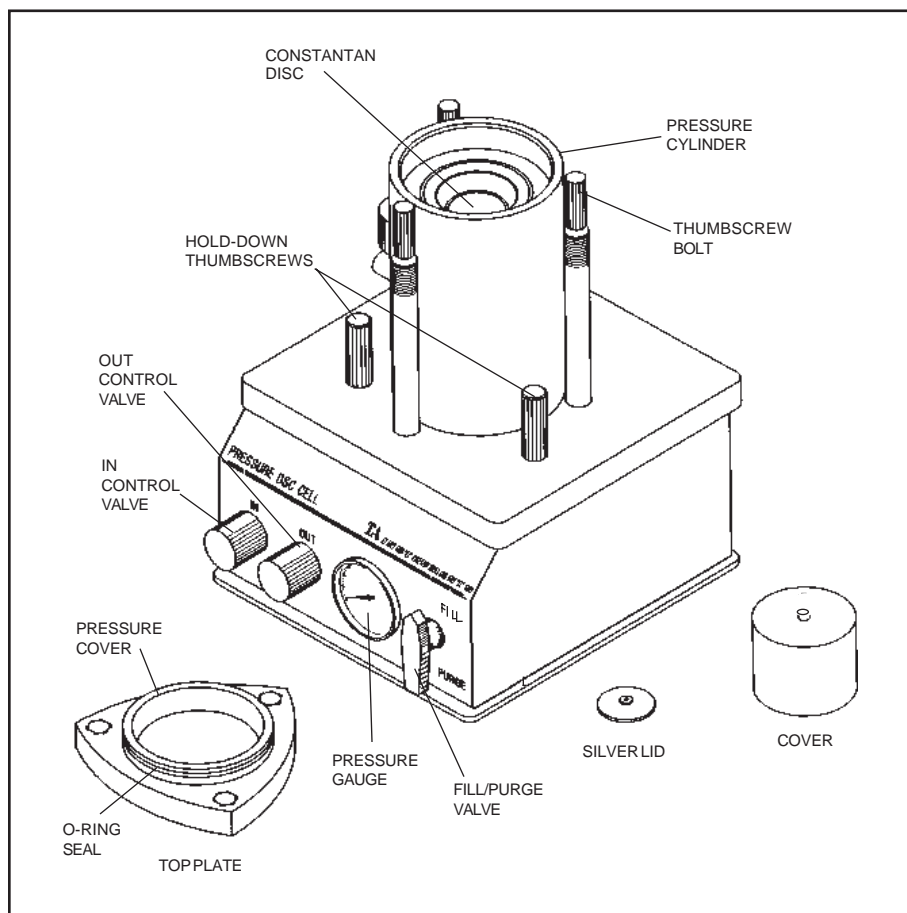

Figure PDSC.6
3. Unscrew the three thumbscrew bolts (Figure PDSC.6) from the top plate. Do not use tools to open or close the cell.